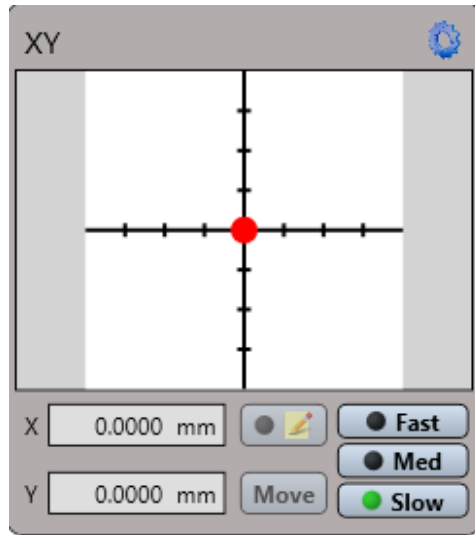

Figure 5-11: Instrument Control Panel for the X-Y Stage
- The Instrument Control Panel that allows you to control the DektakXT profiler (see Figure 5-11).